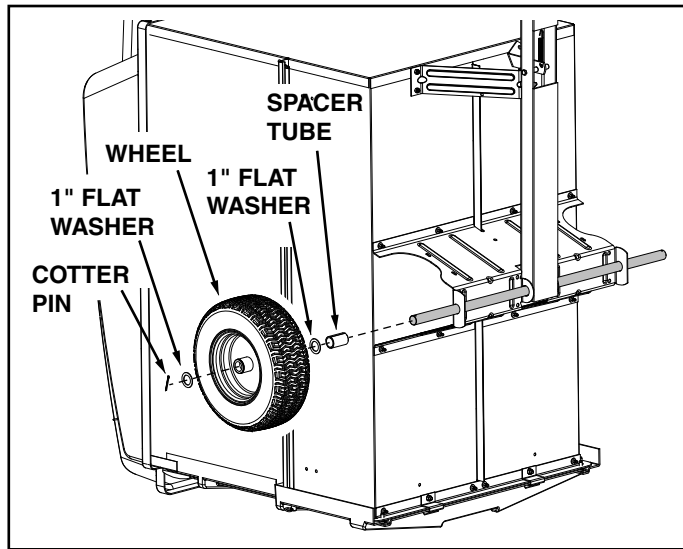

FIGURE 4
- Assemble a spacer tube, a 1" flat washer, a wheel (valve stem facing out), and another 1" flat washer onto the axle as shown in figure 4. Secure the wheel with a cotter pin, spreading the ends of the pin. Repeat on other end of axle.